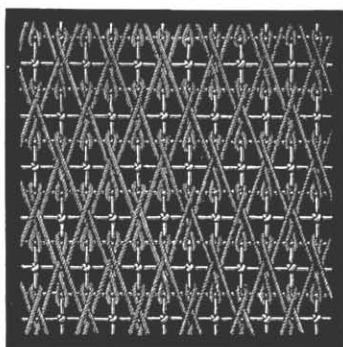

Fig. 46. Ground in Russian stitch.
**Ground in Russian stitch** (fig. 46). — Begin at the top, pass the thread, from right to left, under one bar of the net,